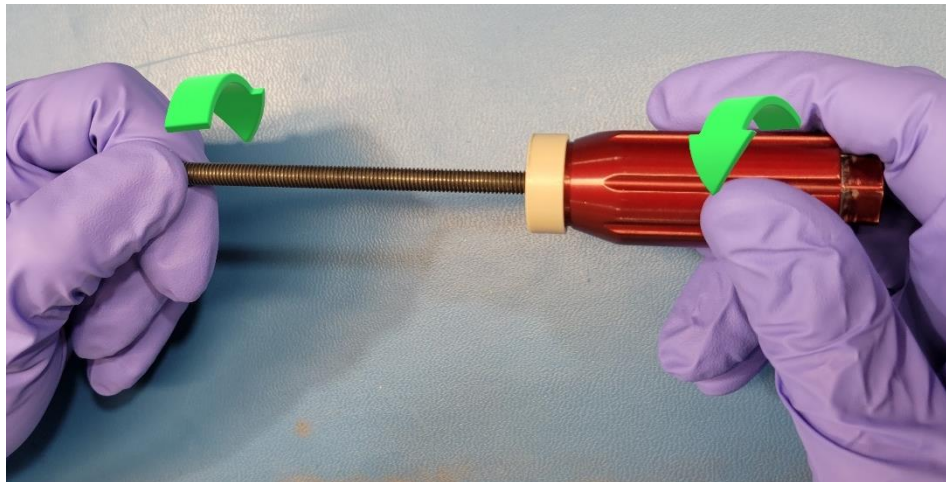
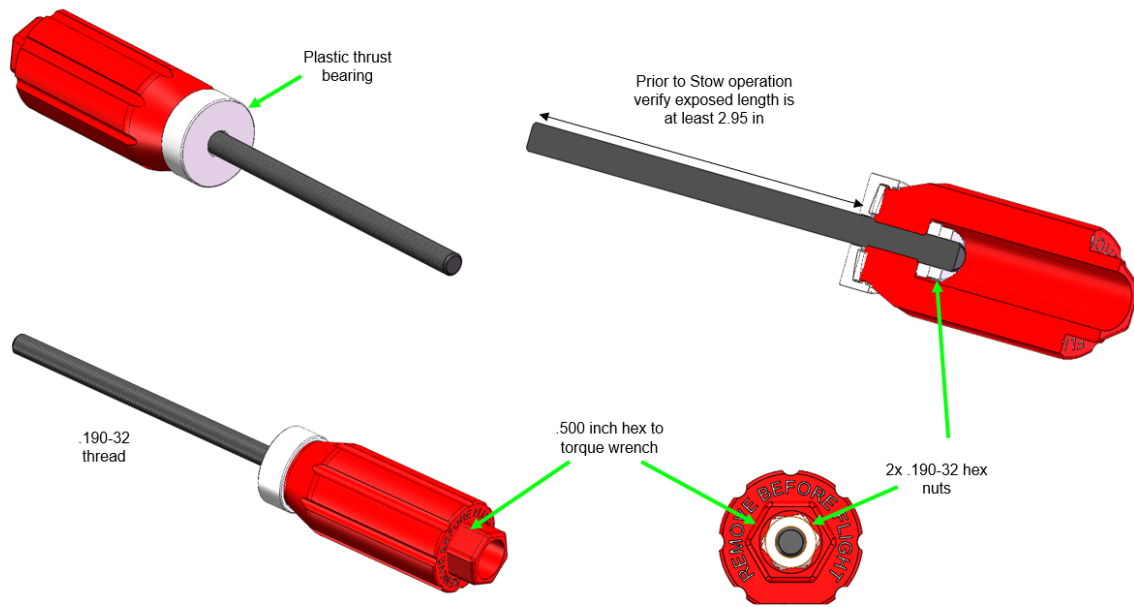
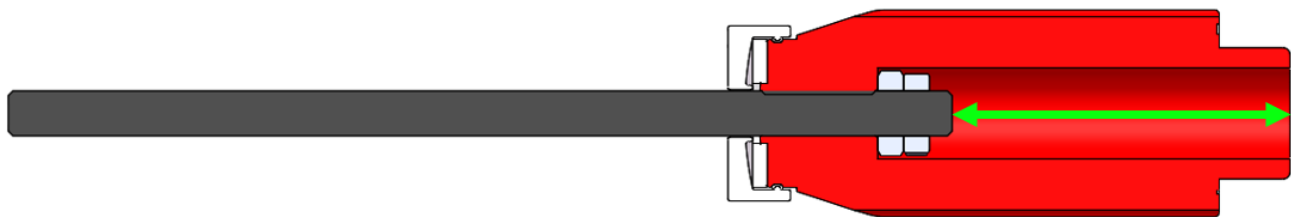

Figure 10-4: Turning Screw Head
Figure 10-5: Stow Screw Description
Figure 10-6: Measuring Threaded Rod Depth
10.1.5	Turn the Screw Head and the Threaded Rod so that the exposed thread length increases until Stow Screw is hard stopped. See Figure 10-4. Record length of threads exposed on the Stow Screw. See Figure 10-5 for length definition. Verify Length is >2.95in. Measure the depth of the Threaded Rod from the Screw Head at the center of the hole. Record depth. See Figure 10-6 for depth definition Stow Screw thread length [in]: _____ Threaded Rod Depth [in]: _____
11.2.1	<p>Ensure the Stow Screw length is still >2.95 in (see Figure 10-5 for Stow Screw length definition). Reverify the Screw Head is fully backed on the locking nuts by rotating Head counterclockwise while holding threads until hard stopped. Install the Stow Screw through the radial hole on +Y side of Upper Ring.</p>